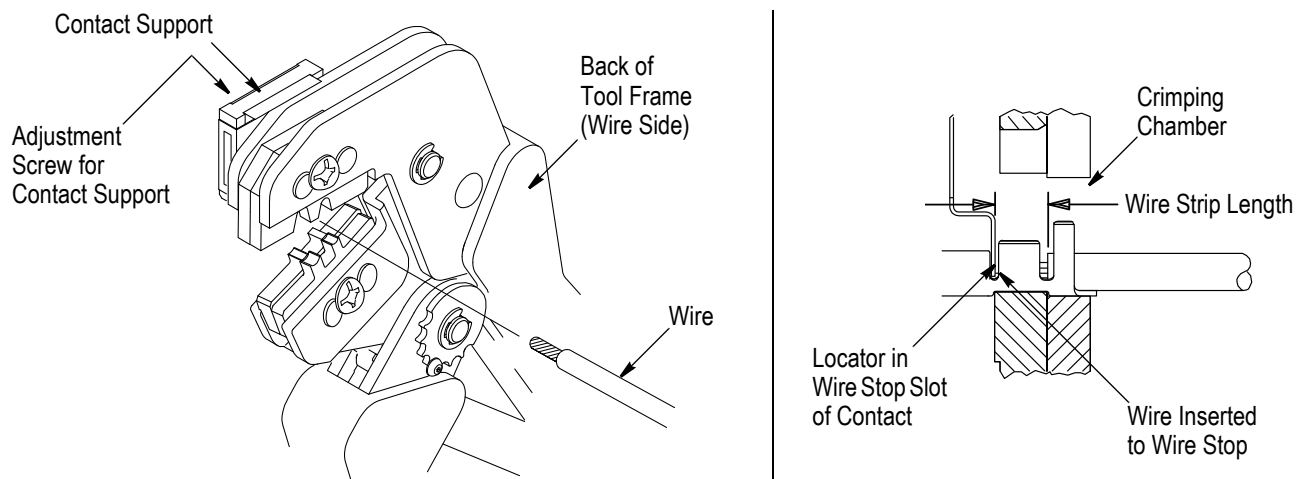

Figure 3
the tool frame. Place the contact up into the crimping chamber so that the locator drops into the slot in the contact. Refer to Figure 3. Butt the front end of the wire barrel against the locator.
5. Insert the stripped wire into contact insulation barrel and wire barrel until it is butted against the wire stop as shown in Figure 3.
*The crimped contact may stick in the crimping area; however the contact can be removed by pushing downward on the top of the locator (see Figure 3).*